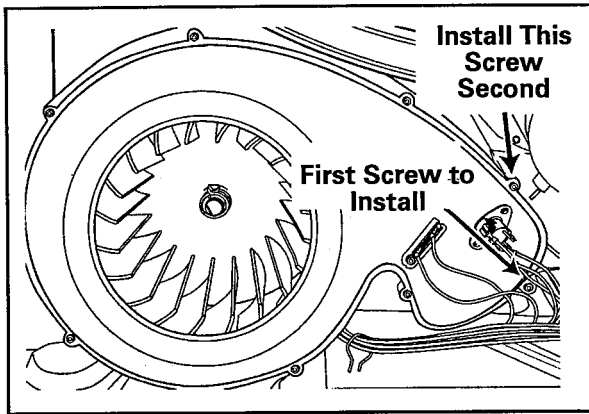

Figure 7-4
3. Install the first screw closest to the exhaust duct (right most screw). *(See Figure 7-4)*